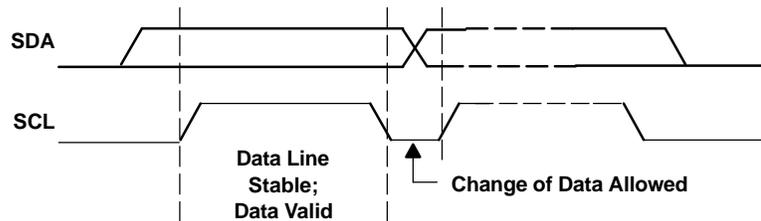
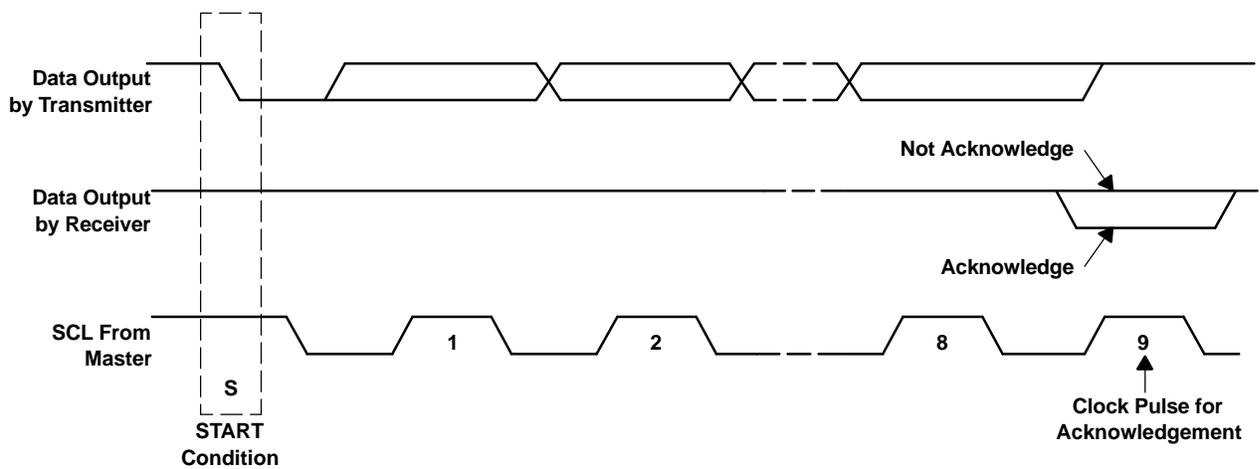

Figure 32. Bit Transfer on the I²C Bus
Figure 33. Acknowledge on the I²C Bus
- The master then generates the SCL pulses, and transmits the 7-bit address and the *read/write direction bit* R/\bar{W} on the SDA line. During all transmissions, the master ensures that data is *valid*. A *valid data* condition requires the SDA line to be stable during the entire high period of the clock pulse (see Figure 32). All devices recognize the address sent by the master and compare it to their internal fixed addresses. Only the slave device with a matching address generates an *acknowledge* (see Figure 33) by pulling the SDA line low during the entire high period of the 9th SCL cycle. Upon detecting this acknowledge, the master knows that communication link with a slave has been established.